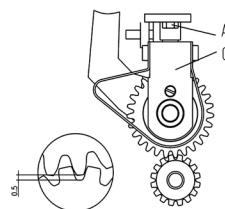

图33 (Fig.33)
上下滚轮的间隙: 将下滚轮放至下死点在自由状态时, 上滚轮与下滚轮的齿间隙为0.5mm (图33), 且两滚轮平行。调整:
1. 两滚轮平行调整: 将螺钉(A)放松, 调整两滚轮平行后, 稍紧螺钉(A)上下移动固定座(C), 使上下滑动顺畅, 再锁紧螺钉(A)。(图33)
The teeth gap between top and lower rollers should be 0.5mm (Fig.33), when the lower roller is free and at its dead bottom end and parallel to the top roller.
Paralleling Loosen screw (A) and top and lower rollers parallel. Tighten screw (A) slightly and move frame Base (C) up and down to its smooth. Then tighten screw (A)。(Fig.33)